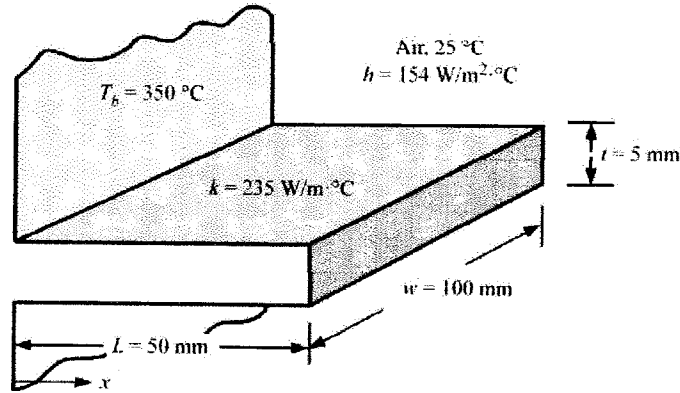

Figure Q5
- (b) Consider a plane wall with surface temperature of 350 °C. This wall is attached with a straight rectangular fin ($k = 235$ W/m·K) as shown in **Figure Q5**. The fin is exposed to an ambient air condition of 25 °C and the convection heat transfer coefficient is 154 W/m²·K. The fin has a length of 50 mm, a base of 5 mm thick and a width of 100 mm. Calculate;